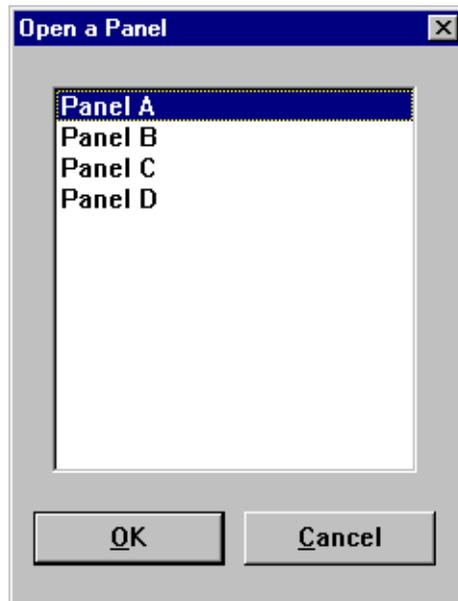

Figure 69. Open Panel dialog box
1. Choose **Window | Open Panel**. The Open a Panel dialog box appears (Figure 69).